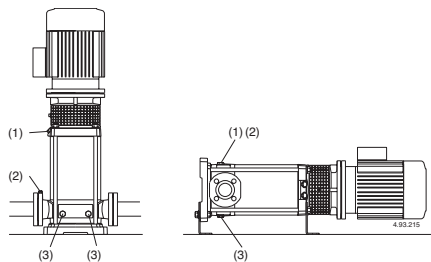
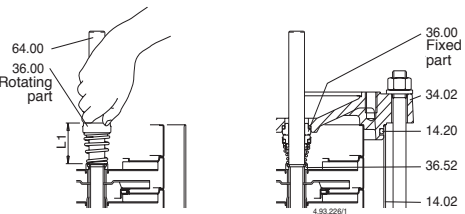

Fig. 4 (1) Filling and air vent
Fig.5 Inserting the mechanical seal
(2) Suction side air vent
(3) Draining
When the liquid level on the suction side is above the pump (inflow under positive suction head, **fig. 3B**), fill the pump by slowly and completely opening the inflow gate valve while keeping the delivery gate valve and air vent holes (1), (2) (**fig. 4**) open to release the air.
**During filling, keep the air vent holes (1)(2) open only if the inflowing liquid presents no possible danger on account of its nature, temperature or pressure.**
Close the air vent holes (1), (2) (**fig. 4**), for MXV-B, MXV(L) 25-32-40 e MXV(L)4 25-32-40 Tighten the needle screw (14.17) in the drainage plug (14.12) (**fig. 4b**) and close the air vent hole (14.04).
If a priming loss occurs (interruption of delivery flow, despite opened gate valves) or if a pressure oscillation is indicated on the pressure gauge, repeat the venting operation on the suction side (2), make sure all the suction pipe couplings are perfectly sealed and tighten the air vent plug (2) and the draining plugs (3) on the suction side (**fig. 4**).
Or, after draining, perform the washing operation, inserting clean water (at least 40 litres) into the filling hole (1) on the delivery side and allowing it to come out of the draining hole (3) on the suction side (**fig.4**).
Before dismantling, close the gate valves in the suction and delivery pipes and empty the pump casing (fig. 4). For dismantling and re-assembly refer to the section drawing (section 14.) and figures 5, 6.
Push the rotating part as far as the shoulder ring (36.52) on the shaft (64.00), without compressing the spring. Check the length before and after insertion and raise the rotating ring as far as the initial length (L1 in fig.5).